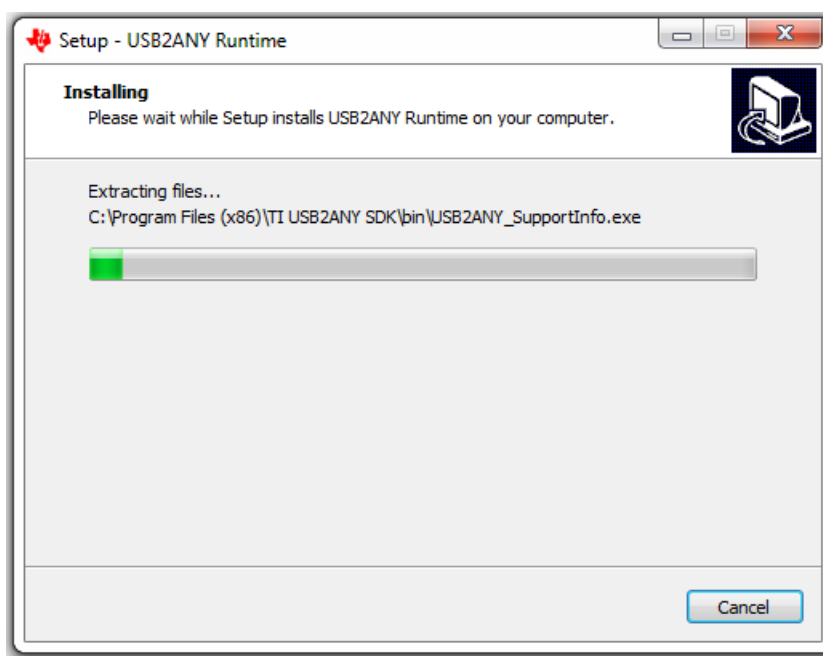

Figure 22. USB2ANY Installation Progress
13. The installer begins self-extraction and proceeds with the installation as shown in Figure 22.